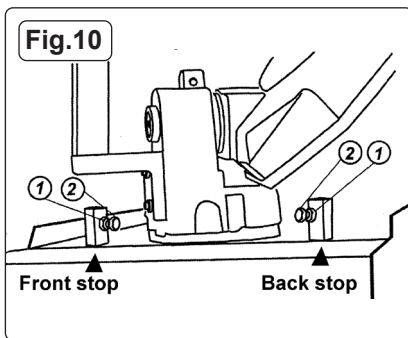

Fig.10
**5.6. ADJUSTING THE BOW PIVOT TRAVEL LIMITS (See Fig.10)**
- 5.6.2. The front stop seen in Fig.10 should be used to check that the blade is at 90° to the vice. Place a small set square between the blade and the fixed face of the vice. Loosen the hex nut '1' and wind the bolt '2' in or out until 90° is achieved. Tighten the hex nut '1'. Lock the main pivot using lever 'E'.
- 5.6.3. The back stop seen in Fig.10 limits the rotation of the bow to 60°. This is factory set and would not normally need adjusting. **DO NOT** allow the bow to pivot beyond 60°.